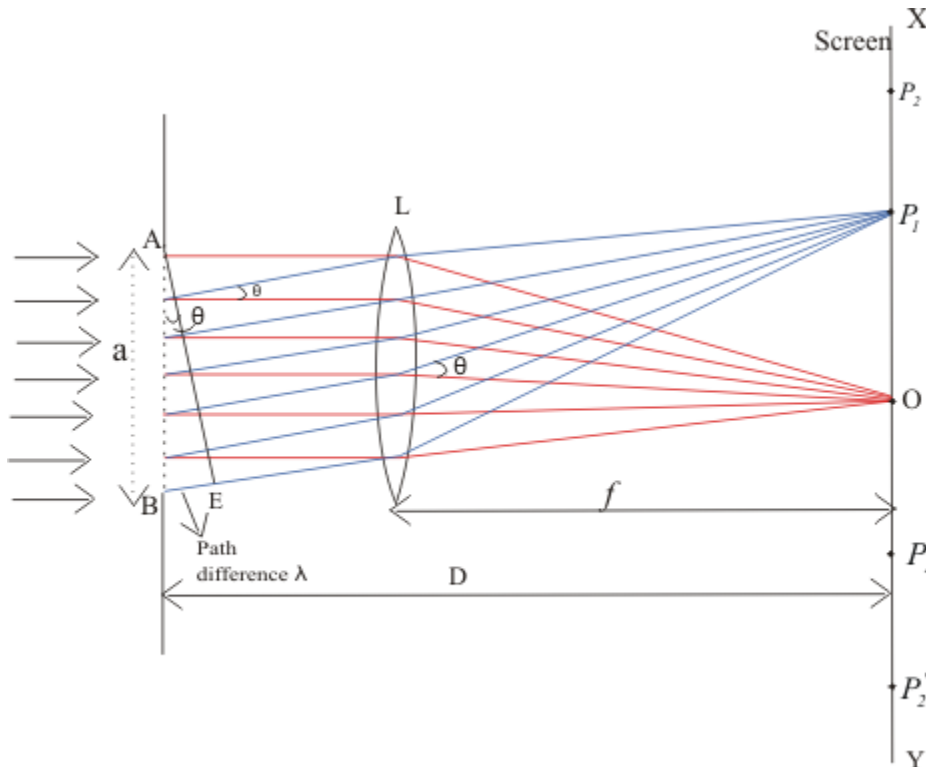

Figure 1. Fraunhofer diffraction of a plane wave at single slit
- Such a point on screen as given by the equation (1) would be point of secondary minimum
- Again consider the point  $P_2$  in the figure 1 and if for this point path difference  $BE = 2\lambda$ , then we can imagine slit to be divided into four equal parts